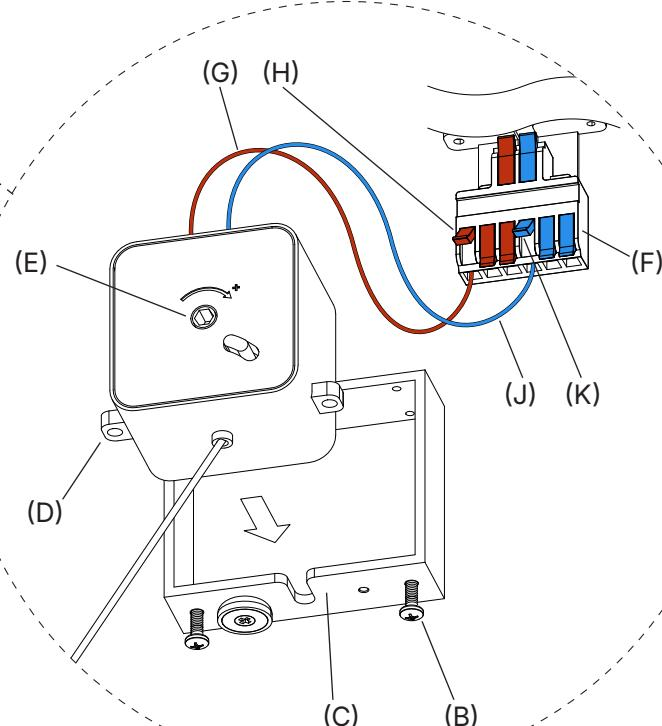

Fig. 6
2. Connect Cord Spool wires to **Lever Nut (F)** by pulling up on the lever for an empty slot, inserting the wire, and pushing the lever back down to lock.
- a) Connect **Positive Wire (G)** to one of the **Lower Positive (red) Ports (H)** of the lever nut (Fig. 6).
- b) Connect **Negative Wire (J)** to one of the **Lower Negative (blue) Ports (K)** of the lever nut.